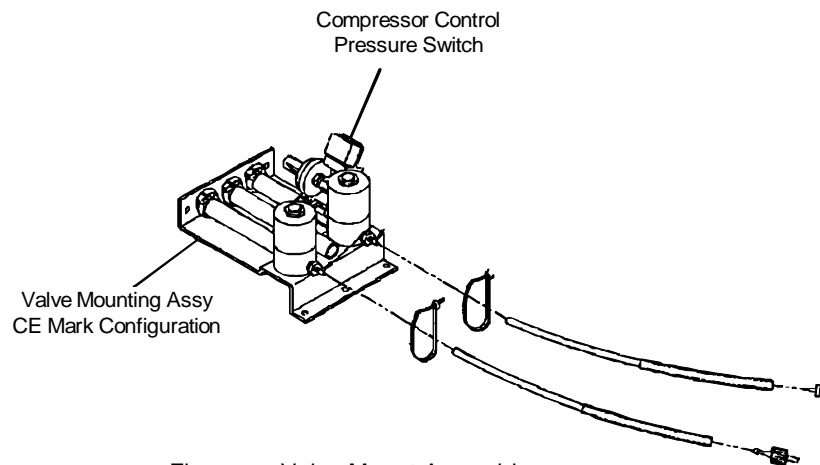

Figure 4: Valve Mount Assembly
- a) Mount the new CE Mark Valve Mount assembly (1-36020-02, **Figure 4**) onto the PPC baseplate.
- b) Locate the two (2) 17" (43 cm) pressure switch cables included under CN 1-73609-01. (The two (2) wires are the same length, and connector terminations.) Locate the compressor control pressure switch shown in **Figure 4**. Slide the connector from one of the pressure switch cables onto the compressor control pressure switch connector labeled N.C.. Slide the connector from the second pressure switch cable onto the pressure switch connector labeled COM.
6. Disconnect the black wire connected to the "NC" terminal on the compressor control pressure switch (Figure 4) and re-connect it on the switch terminal labeled "NO".